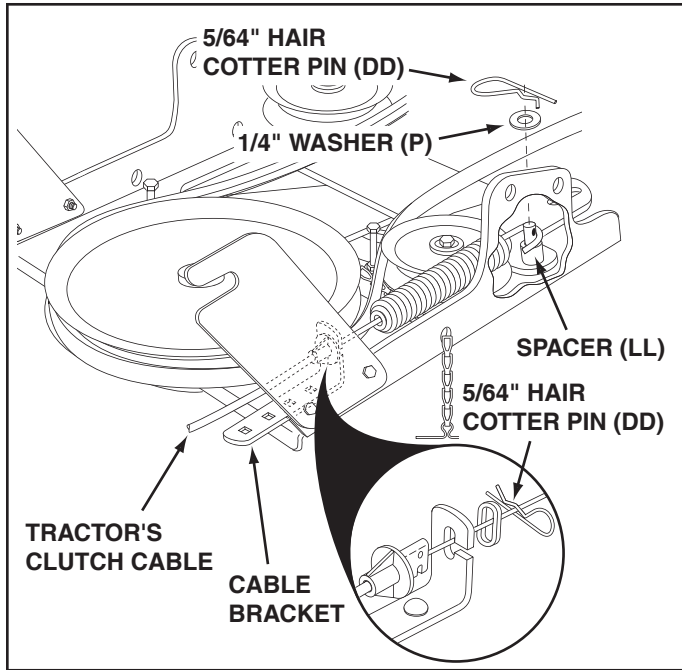

FIGURE 11
STEP 11: (SEE FIGURE 11)
- Attach the tractor's clutch cable to the cable bracket. Secure the cable housing guide (groove down) to the cable bracket using the original collar and a 5/64" hair cotter pin (DD).
- Place a spacer (LL) on the welded pin on the idler arm. Hook the end of the clutch cable spring over the pin and secure it with a 1/4" washer (P) and a 5/64" hair cotter pin (DD).